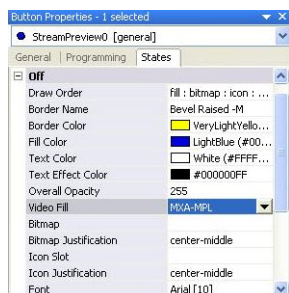

FIG. 10 Button Properties
2. In *Button Properties*, select *MXA-MPL* as the video fill (FIG. 10).